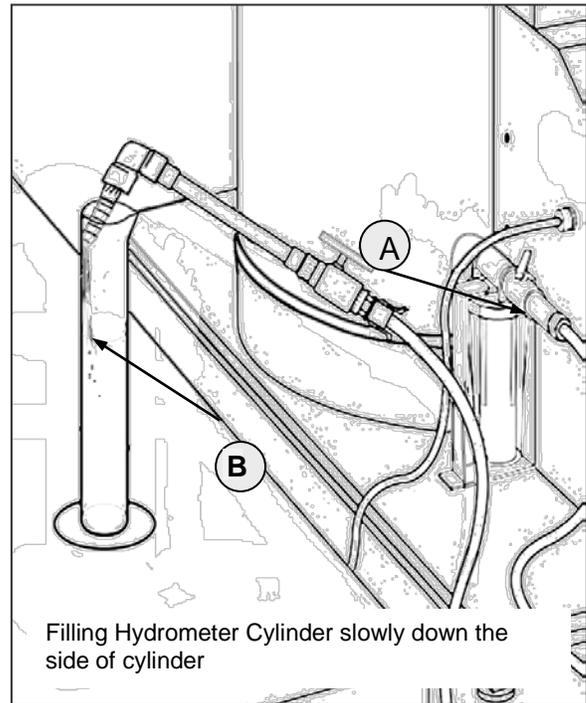

Figure 12
4. Slightly OPEN the Main Transfer Ball Valve next to the Filter Housing (Figure 12, item A).
- Slowly OPEN the Transfer Nozzle Valve until solution starts to slowly accumulate into the *Hydrometer Cylinder*. Allowing solution to fill down the side of the beaker minimizes the creation of bubbles within the solution (Figure 12, item B).